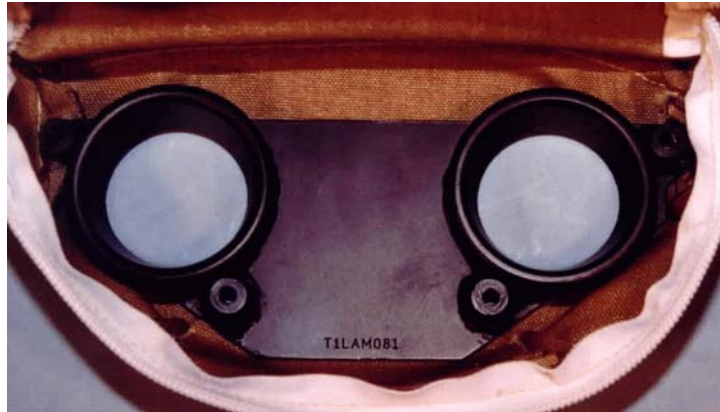

Figure 10.3- Internal Mounting Weld assembly positioned properly inside of bag
1. Position the internal Mounting Welded Assembly (T1LAW080) into the interior of the Lower Abdomen Bag Assembly (T1LAF100), as shown in **Figure 10.3**.